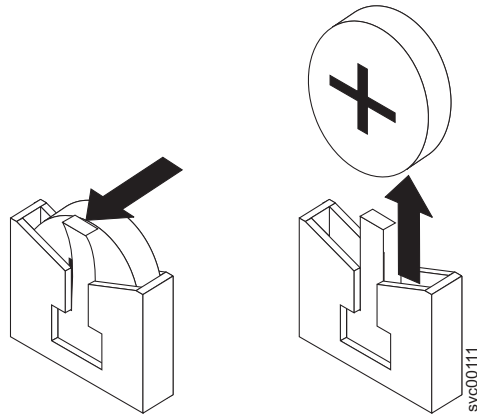

Figure 56. CMOS battery holder
- a. Use one finger to pull the retainer tab that secures the battery to its housing. See Figure 56 on page 227.